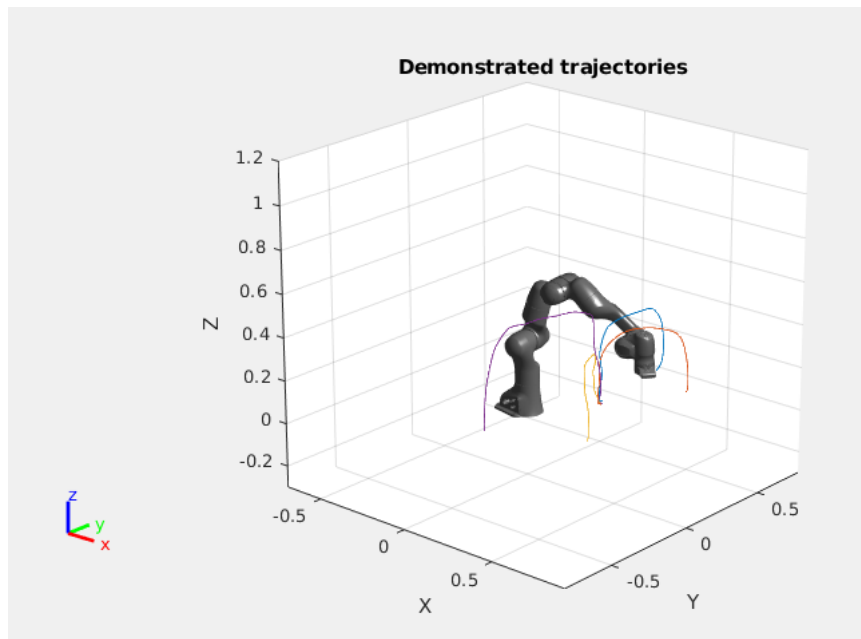

Figure 2: Examples of pick-and-place trajectories
3. Without deleting your previous dataset, record new trajectories starting from different initial conditions to span the whole workspace (see figure 2). Change the learning algorithm by typing `myHub.myDS.algoName = 'LPVDS'`, then start the learning again. Similarly, you can change the LPVDS parameters in the function `learnLPVDS()` in the file `DS.m`.